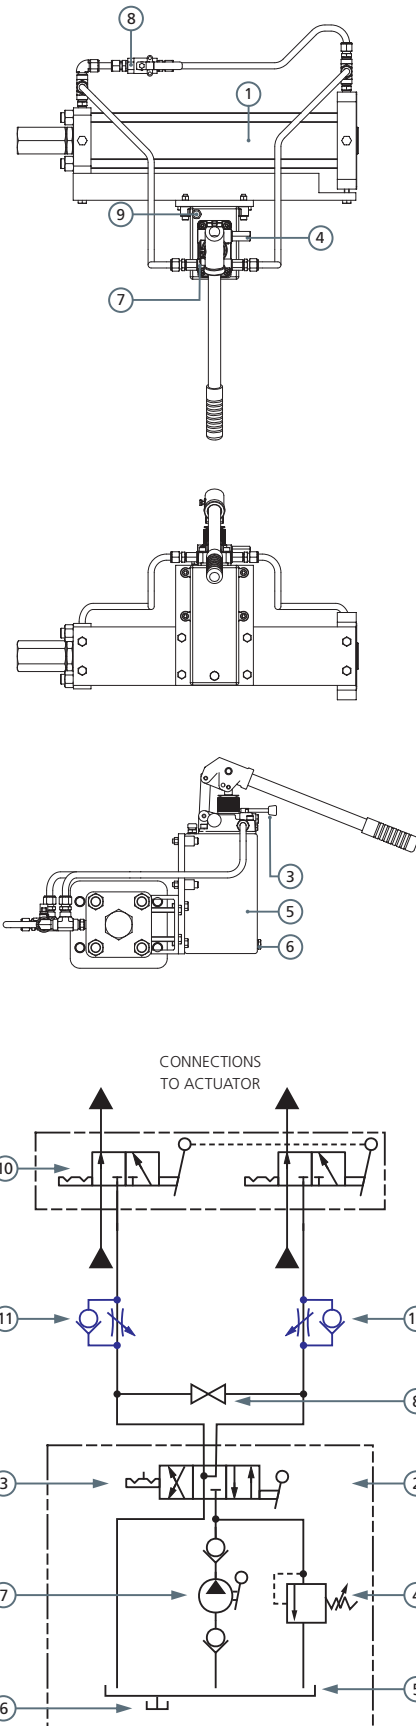

Fig 12.2
Refer to Fig.12.2. The unit consists of two main components:
With the selector valves (10) in the position as shown in Fig 12.2, the actuator can only be operated from remote.